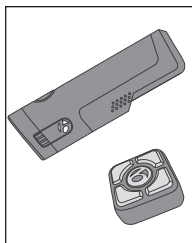

FIGURE 1.1.1
1. Place the light close to the Transmtrr Remote (within 15cm / 6in) (Figure 1.1.1).